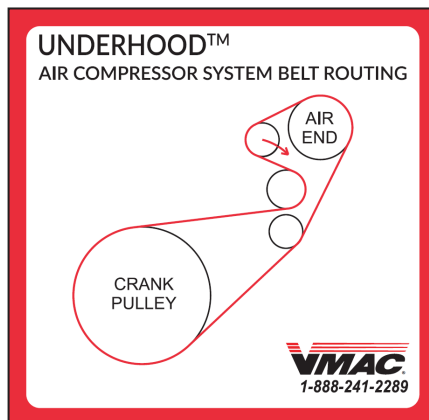

Figure 41 — Belt routing decal
- Install the VMAC belt routing decal in a suitable location under the hood (Figure 41).